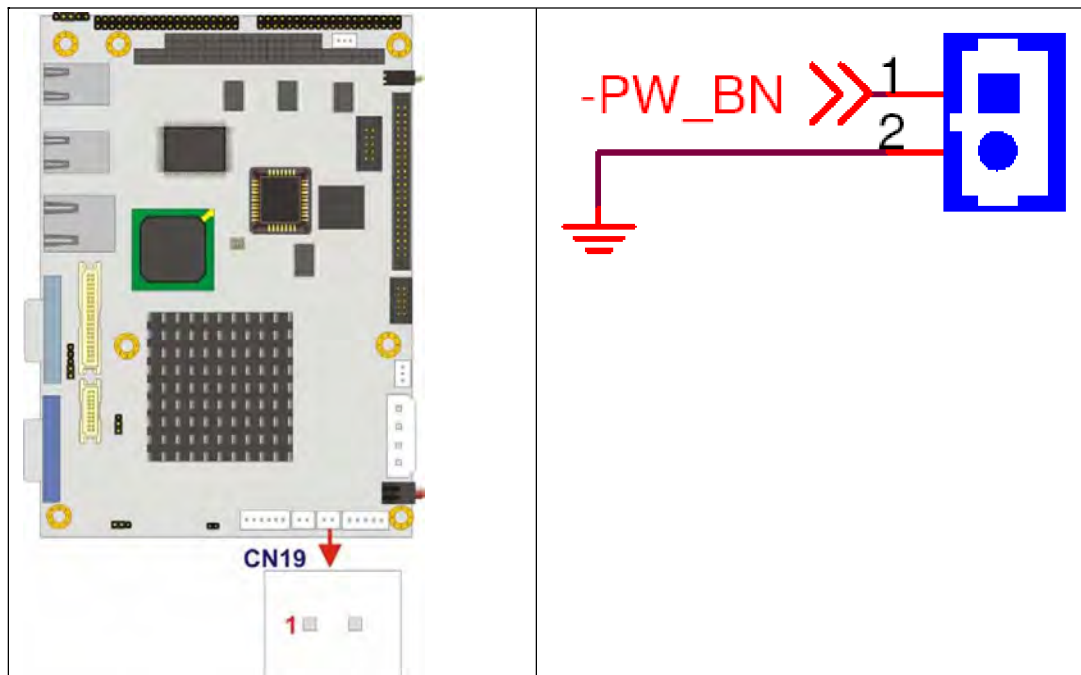

Figure 4-14: Power Button Connector Location
- CN Location:** See Figure 4-14